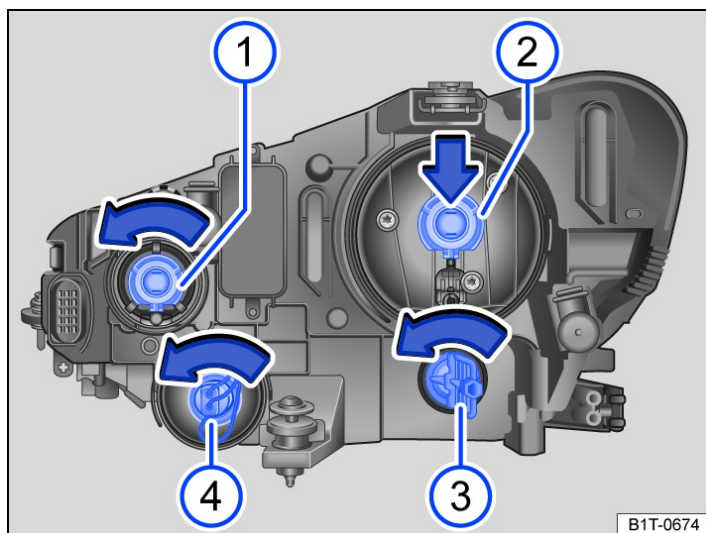

Fig. 2 In the engine compartment: replacing the bulbs in the right headlight.
2. Turn the bulb holder in the direction of the arrow up to the stop and carefully pull out toward the rear → *fig. 2* ①.
4. Insert the bulb holder into the headlight and turn in the opposite direction to the arrow as far as it will go → *fig. 2* ①.
2. Push the bulb holder downward in the direction of the arrow and pull it out toward the rear → *fig. 2* ②.
4. Insert the bulb holder in the headlight and push upward in the opposite direction of the arrow → *fig. 2* ②.